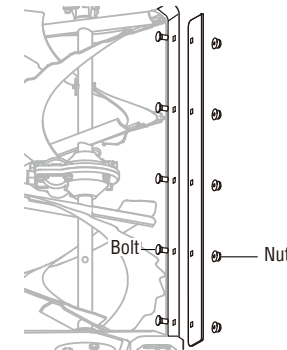

Fig.14
1. The scraper bar is located at the bottom of the snow blower housing. In the process of snow blowing, the bar may touch the ground or stone directly, resulting in wear. Remove the battery and turn the snow blower on its side to work on the tool. (Fig. 14)
2. Use a Hex wrench to remove the 5 nuts and washers under the bottom of the housing. Remove the worn scraper bar from the snow blower. (Fig. 14)